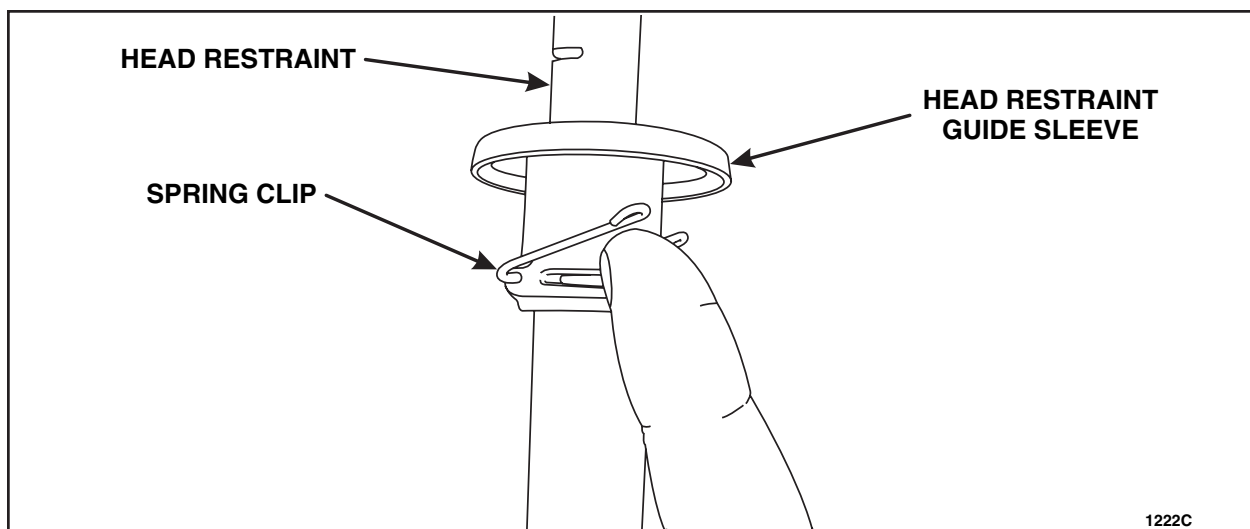

FIGURE 3
6. Remove the head restraint. See Figure 3.